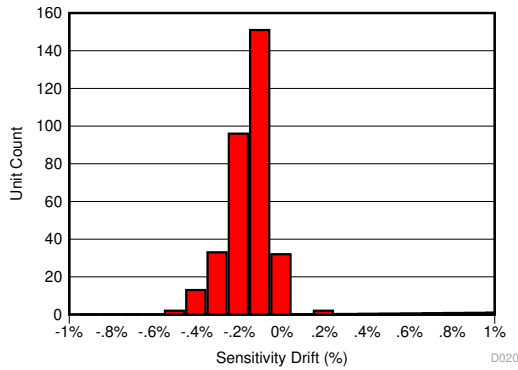
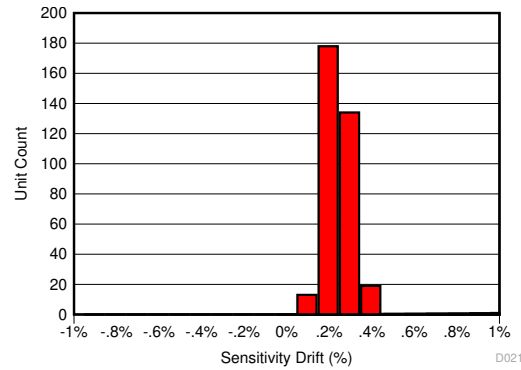

Figure 8-6. Sensitivity Error After 130°C, 85% RH HAST
Figure 8-7. Sensitivity Error Drift After AEC-Q100 High Temperature Operating Life Stress Test
The same compensation techniques used in the TMCS1101-Q1 to reduce temperature drift also greatly reduce lifetime drift due to aging, stress, and environmental conditions. Typical magnetic sensors suffer from up to 2% to 3% of sensitivity drift due to aging at high operating temperatures. The TMCS1101-Q1 has greatly improved lifetime drift, as defined in the Electrical Characteristics for total sensitivity error measured after the worst case stress test during a three lot AEC-Q100 qualification. All other stress tests prescribed by an AEC-Q100 qualification caused lower than the specified sensitivity error, and are within the bounds specified within the Electrical Characteristics table. Figure 8-6 shows the total sensitivity error after the worst-case stress test, a Highly Accelerated Stress Test (HAST) at 130°C and 85% relative humidity (RH), while Figure 8-7 and Figure 8-8 show the sensitivity and offset error drift after a 1000 hour, 125°C high temperature operating life stress test as specified by AEC-Q100. This test mimics typical device lifetime operation, and shows the likely device performance variation due to aging is vastly improved compared to typical magnetic sensors.